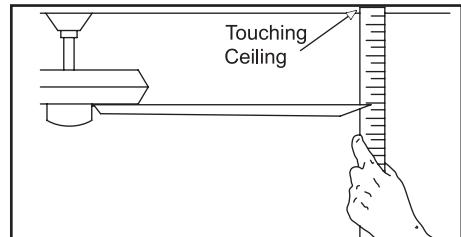

Figure 12
2. Most fan wobble problems are caused when blade levels are unequal. Check this level by selecting a point on the ceiling above the tip of one of the blades. Measure from a point on the center of each blade to the point on the ceiling. Measure this distance as shown in Figure 12. Rotate the fan until the next blade is positioned for measurement. Repeat for each blade. Measurements deviation should be within  $1/8"$ . Run the fan for 10 minutes.